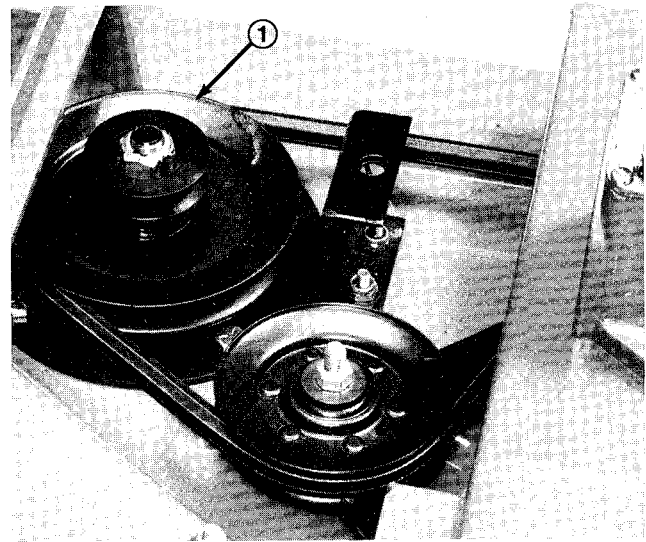

Figure 2
5. Two double-grooved pulleys are supplied with the kit. Install the "double D", double-grooved pulley and original mount nut on cutting units with serial numbers below 90001. On cutting units with serial numbers 90001 and above, install the splined, double-grooved pulley and a new nut. Torque the nuts to 50-60 ft-lb (Fig. 2).
with locknut. Tighten nut to 50-60 ft-lb (Fig. 2).
6. Install deck belt around large pulley (Fig. 2).